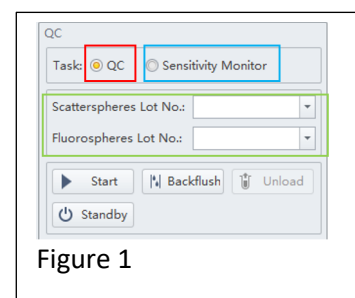

Figure 1
- Click QC (red box in Figure 1).
- Select the correct lot number for the Scatterspheres and Fluorospheres (Green box in Figure 1).Click the arrows to select.